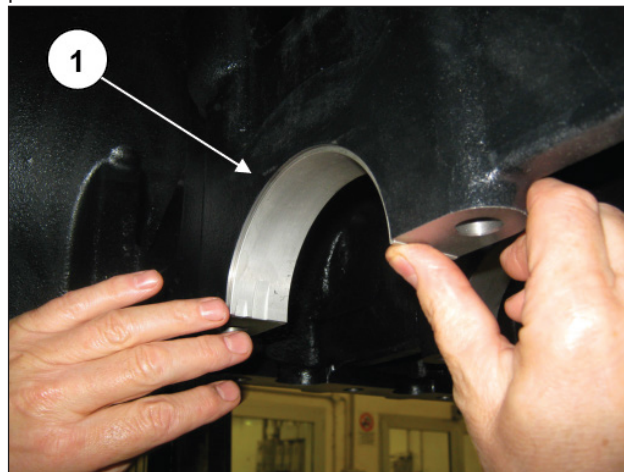

Fig. 27
Keep the main bearing shells (pos. ①, Fig. 27) in their seats in the rear casing to avoid the risk of inadvertently swapping the positions.